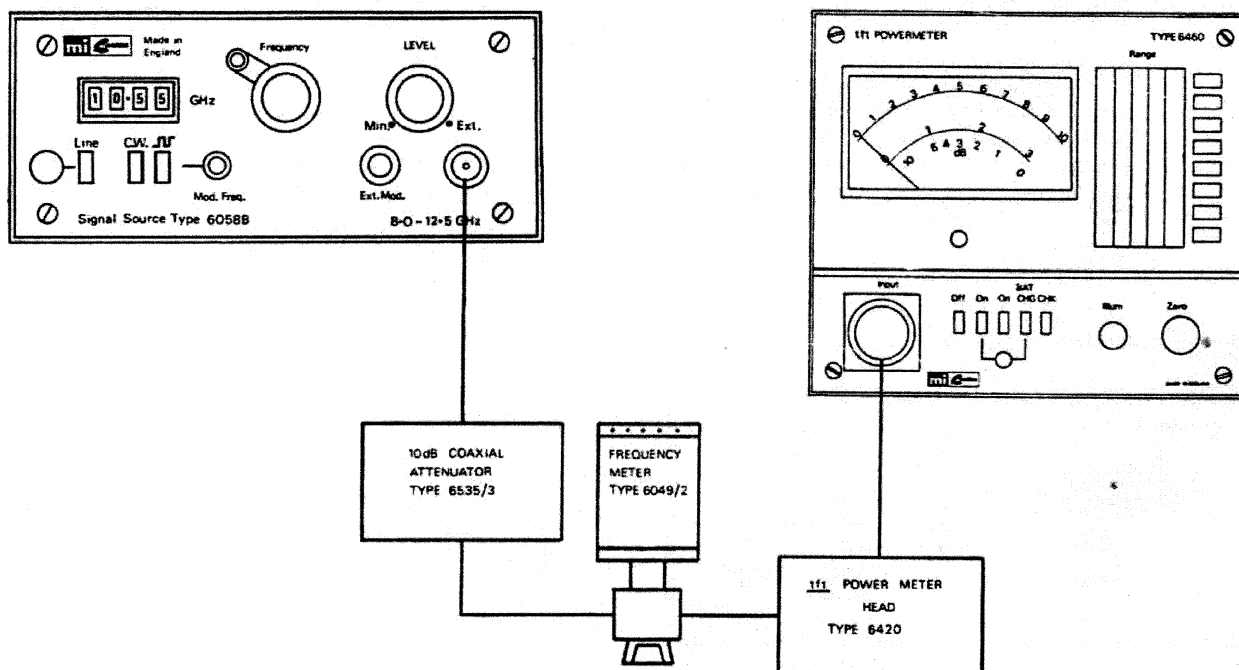

Fig. 10 Frequency Calibration Circuit
- 2) Connect up the system shown in Fig.10 using the equipment shown in the Table. Set the wavemeter to 10.00 GHz and the powermeter to the 10 mW f.s.d. range.